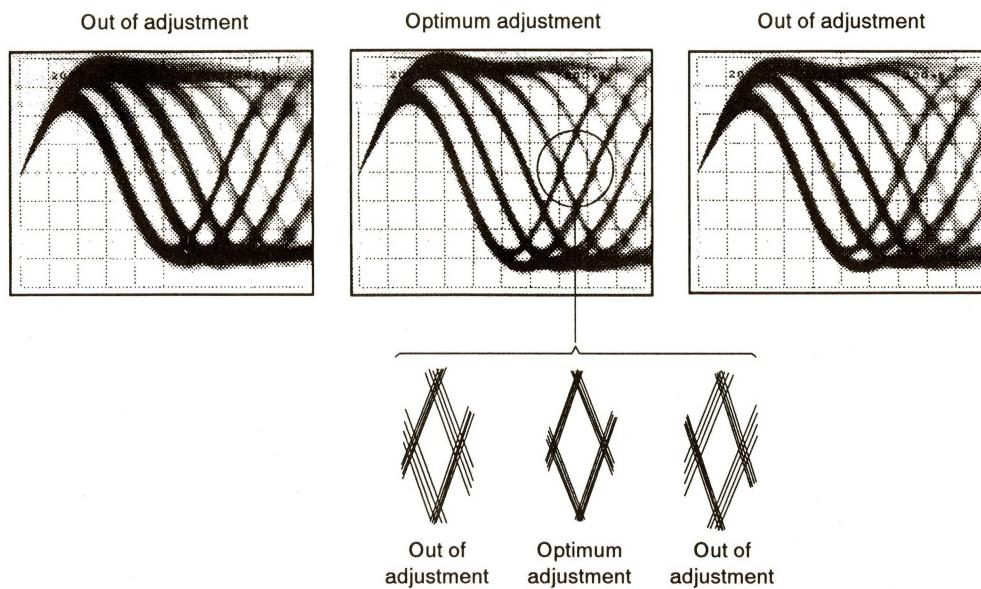

Fig. 7 Eye pattern
2. First, adjust the radial adjustment screw with the hexagonal screwdriver so that the eye pattern (the diamond shape at the center of the RF signal) can be seen the most clearly (Fig. 7).
3. Next, adjust the tangential adjustment screw with the hexagonal screwdriver so that the eye pattern can be seen the most clearly (Fig. 7).